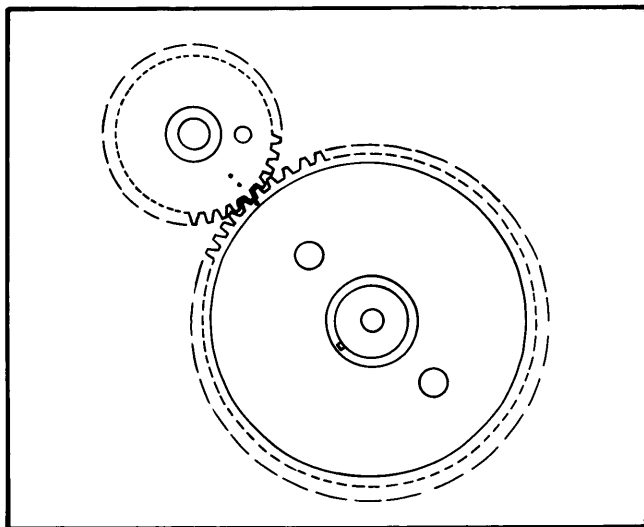

Fig. 5 Timing Gear Alignment
3) Remove push rod cover and remove lifters. Take off engine front cover and remove two camshaft thrust plate screws (see Fig. 5).